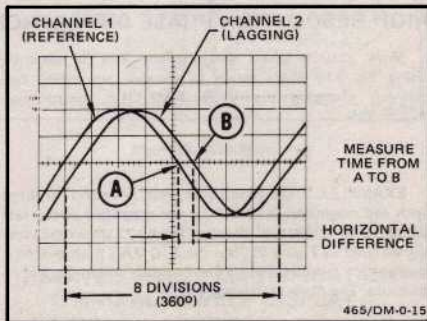
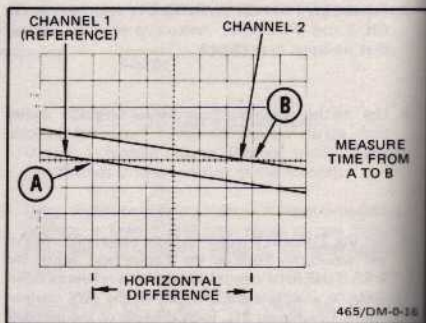

Figure 21. Phase difference.
Figure 22. High resolution phase difference.
- Set the TIME/DIV switch to show about one cycle of the waveform. Position the display and adjust the VAR TIME/DIV control to place one reference signal cycle in exactly eight divisions at the 50% risetime points (see Figure 21). Each division of the graticule now represents 45° of the cycle ($360^\circ \div 8$ divisions) and the sweep rate can be stated as $45^\circ/\text{division}$.
EXAMPLE: The horizontal difference is 0.6 division with a sweep rate of $45^\circ/\text{division}$ as shown in Figure 21.
More accurate phase measurements can be made by using the X10 MAG mode to increase the sweep rate without changing the VAR TIME/DIV control (see Figure 22).
EXAMPLE: If the sweep rate were increased 10 times with the magnifier (X10 MAG), the magnified sweep rate would be $45 \div 10 = 4.5^\circ/\text{division}$. Figure 22 shows the same signals used in Figure 21, but the X10 MAG push button is depressed, resulting in a horizontal difference of 6 divisions. The phase difference is: